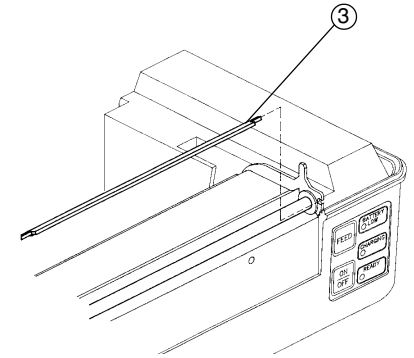

Figure 2. Guide bar installation
7. Fasten the peel-back attachment in place on the front of the printer, using the socket head screws (item 2) supplied.
8. Slide one end of the guide bar (item 3) into the slot at the right edge of the drive roller (see Figure 2). Push the bar far enough into the slot to allow its left end to slip into the slot at the left edge of the drive roller, then slide the bar to the left until it is centered.